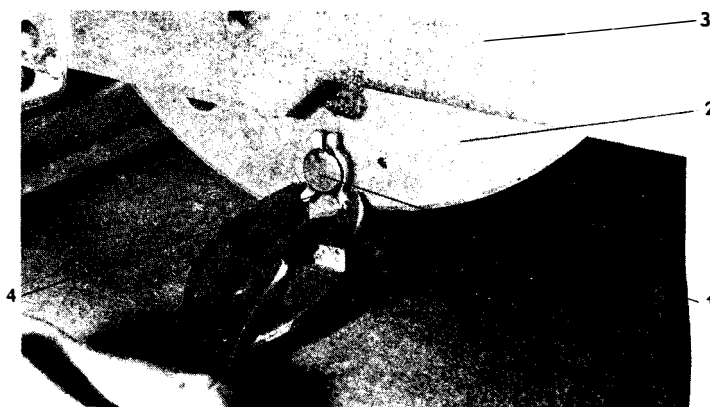

Fig. A13 Close Roller
Charge and gag the closing spring. Press the manual close button to release the flywheel. Rotate the flywheel by hand to put the close roller, (1) Fig. A13, near the bottom of the mechanism. Remove the outboard retaining ring and then remove the pin which mounts the close roller to the flywheel.